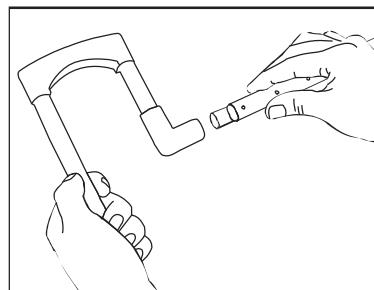
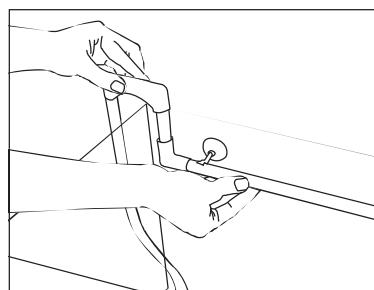

fig 4
fig 6
- Assemble the delivery unit and choose a position for it, if possible at a distance from the suction unit, in order to ensure effective recirculation (fig. 4).
- If you wish, you may apply the perforated bar to improve oxygenation at a 90° angle (fig. 4 - 5), positioning it all in the aquarium at the surface of the water (fig. 6).